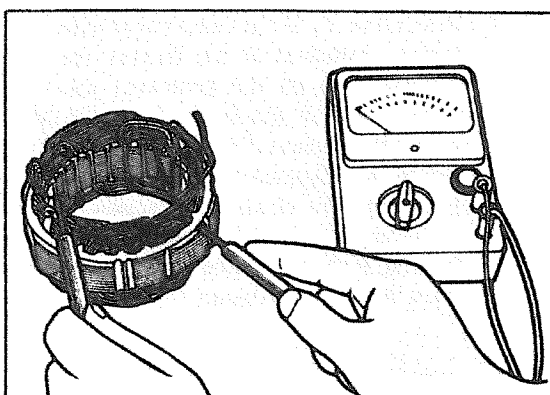

Fig. 17 Continuity Test of Armature (A)
Insert the tester between one end of the coil connected to the diode and the stator core and check that there is no continuity. Next, as shown in Figs. 17 and 18, insert the tester between one end of the coil and the terminal connected to the terminal (N). If the tester shows continuity, the armature is not grounded wire.